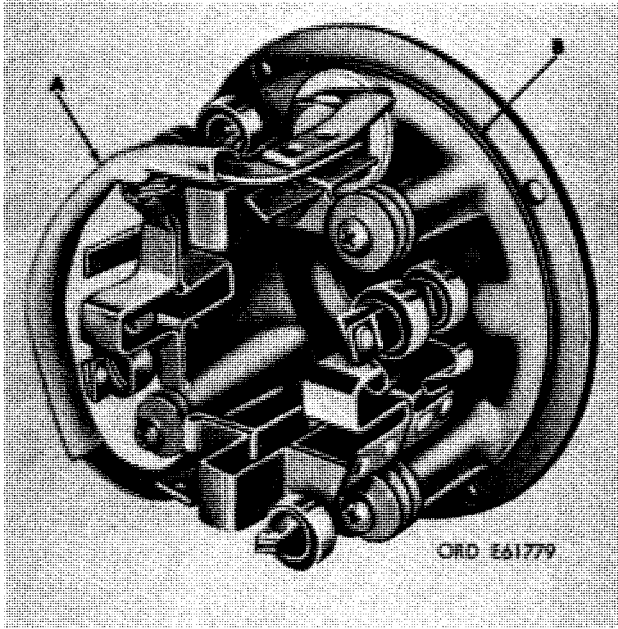

Figure 3-21. Removing or installing brush rigging.
a. Remove brush holder jumper (A, fig. 3-21) and packing (B). Discard packing.